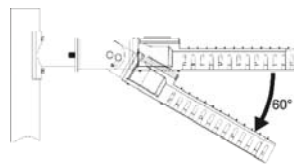

FIG.12
- Loosen and adjust the adjusting bolts to the right angle, and the maximum is 60°(see **FIG.12**).